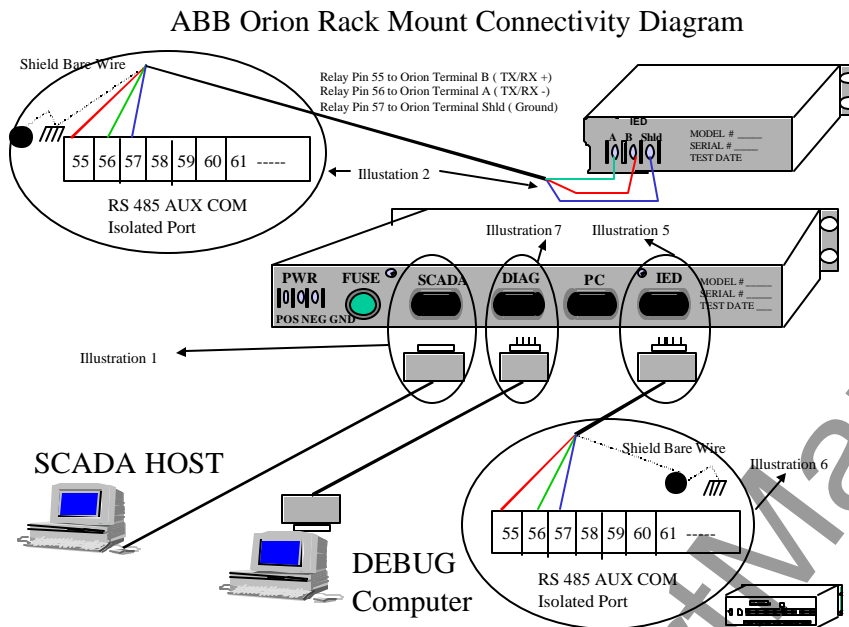

Figure 2 – Orion Cable Connection Diagram
2. Connect the SCADA host to the ORION SCADA MASTER RS 232 port with a 9 pin D shell connector. The cable end should mate with the ORION's male connector. The unit is a DTE pinout and a custom cable may have to be developed for your application since SCADA Host RS 232 connections, handshaking requirements vary per each manufacturer. The ORION SCADA MASTER RS 232 port connection is shown in Figure 2 illustration 1 for a rack mount unit or Figure 2A for a table top unit.
- Within the optional cable assembly pack is a 50 foot length of cable with a 9 pin D shell connector on one end and three bare conductors (red, green, and blue), with a shield on the other. If the IED port on the supplied unit is a 9 pin DB9, connect the male D shell connector to the IED port which is shown in Figure 1 illustration 3 as well as Figure 2 Illustrations 5 and 6. Tighten the cable retaining screws to firmly attach the cable to the unit. If the physical connection not a DB 9 connection, interconnect the devices as shown in Figure 2 Illustration 2. Refer to the OPTIONAL INFORMATION section at the end of this document for specific cable pinout designations.
- The REL 356 Modbus PONI [PONI-M] card only allows for RS 485 communication through the AUX COM PORT. Its location is shown in Figure 2 (illustration 6 and Illustration 5 or Illustration 2 depending upon the physical connection type) or Figure 2A (illustration 5). Connect the conductors as follows. RED (TX/RX +) to terminal A, GREEN (TX/RX -) to terminal B, and common Blue (Common) to the shield connection of the Phoenix Green Connector on the Modbus PONI-M Card. The shield (in this quick start case only), shall be connected to the frame ground connector as shown. The REL 356 Modbus PONI-M card does not have an internal termination resistor jumper (as the ORION unit does). Place a 120 ohm resistor across the A and B connections on the Phoenix connector as shown in the wiring example in the OPTIONAL INFORMATION SECTION contained in this document.
8. The ORION unit allows the operator to configure the unit by connecting an IBM compatible PC RS 232 port via a cable. Attach the RS 232 cable to the ORION DIAGNOSTIC PORT as shown in Figure 2, illustration 7 or Figure 2A illustration 7 depending upon unit selected.